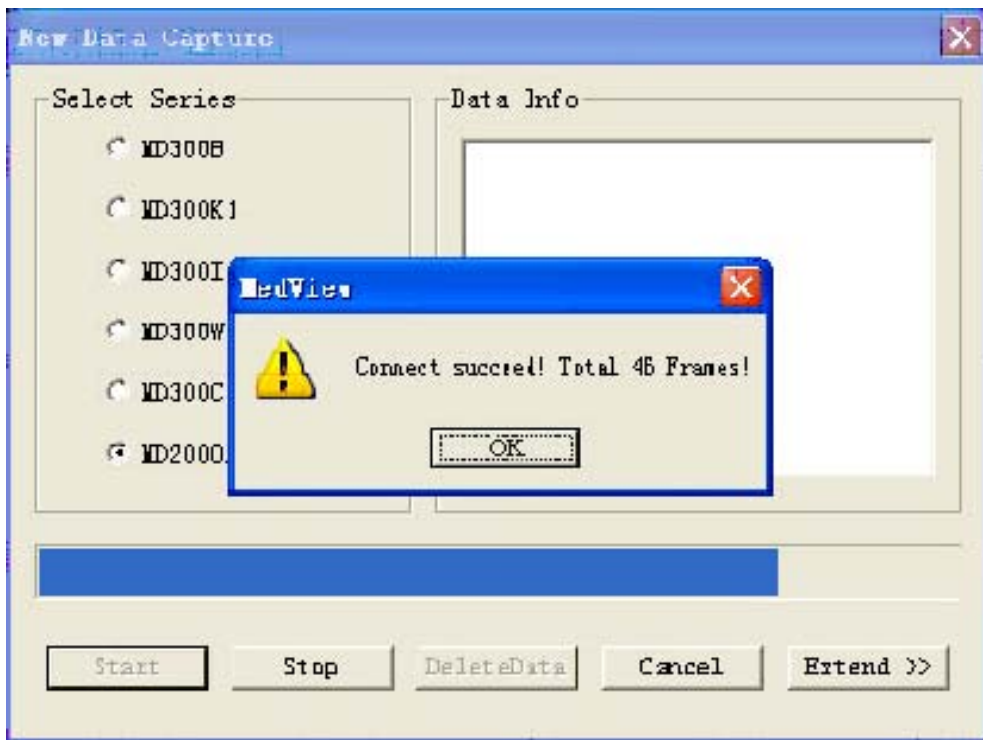
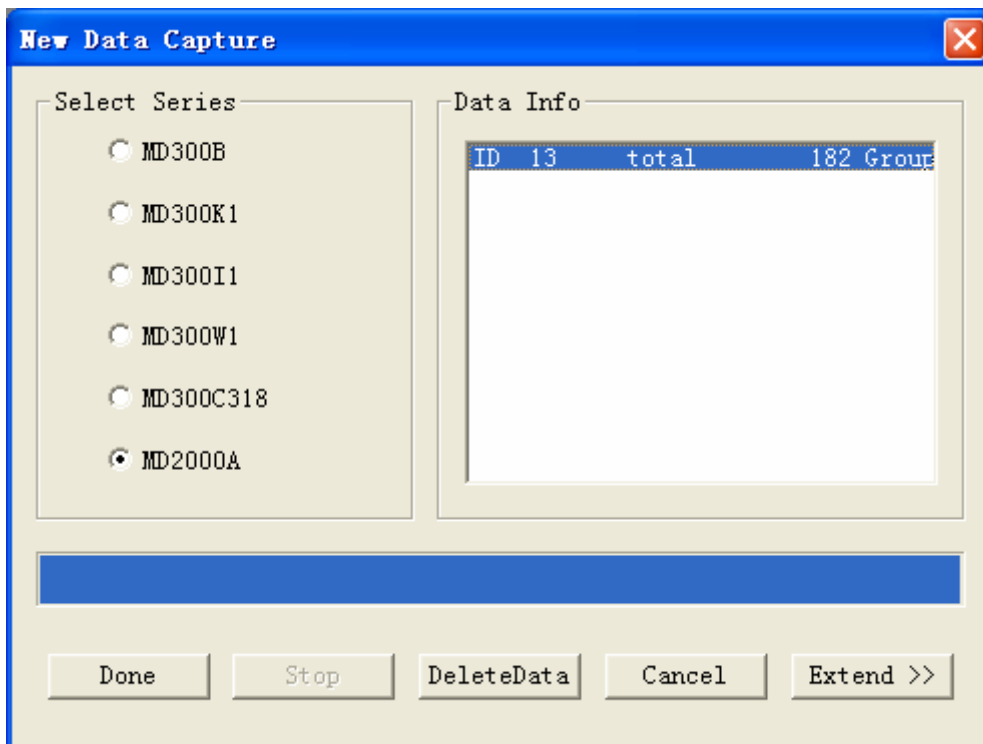
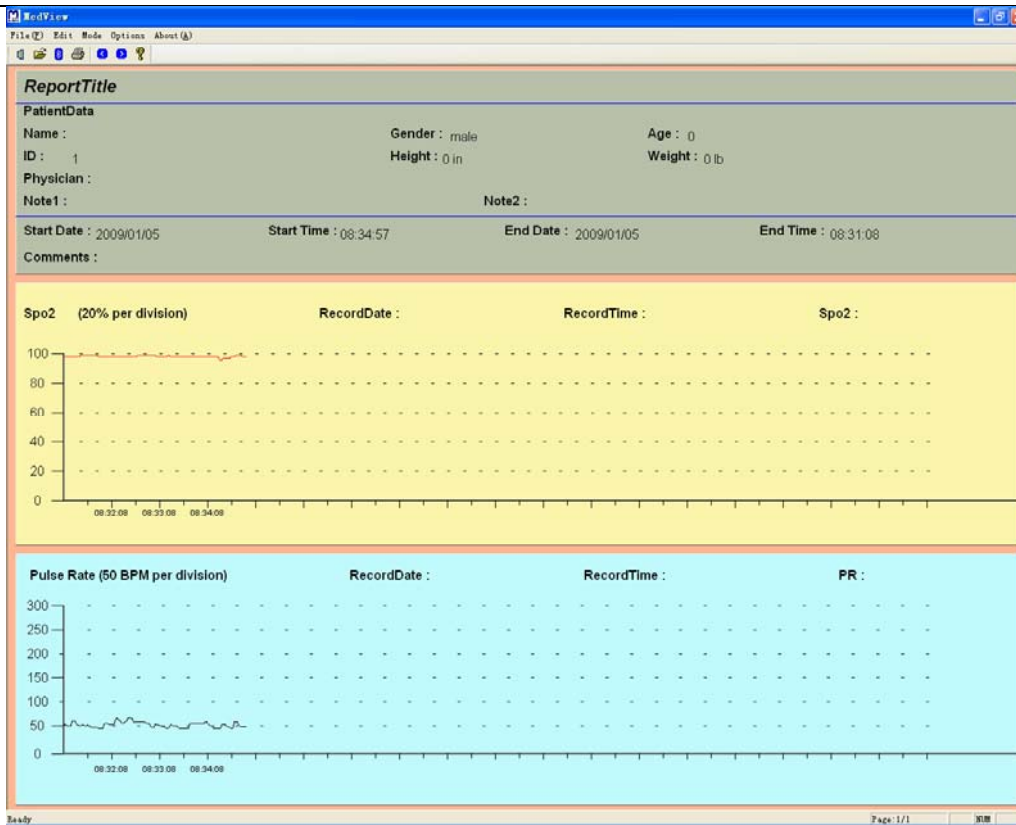
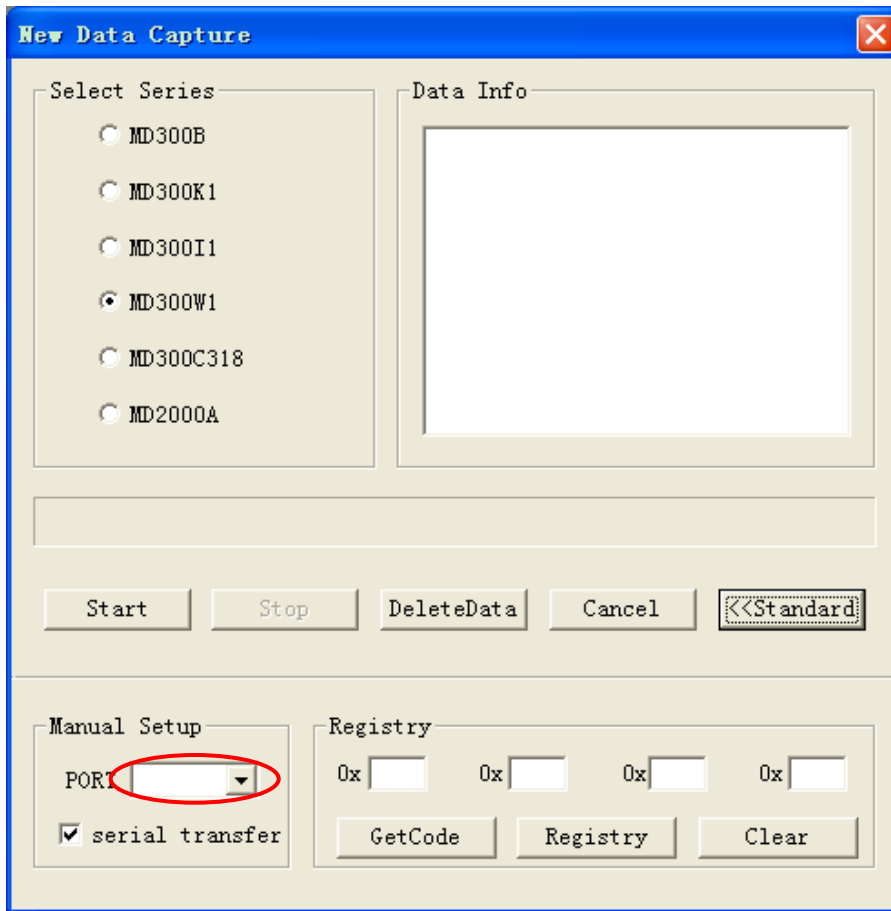

Figure 3-9
Figure 3-10
Figure 3-11
Figure 3-14
3.2.5 Click “OK” button in Figure 3-9, select one record in “Data Info” column then click “Done” to display the trend graph as shown in Figure 3-10 and Figure 3-11.
- (1).**Stop**: Click “Stop” button in Figure 3-9, the data transmission will stop.
- (2).**DeleteData**: Click “DeleteData” in Figure 3-10, the following figure will appear, as shown in Figure 3-12. If click “OK” button, all the data will be deleted, as shown in figure 3-13.
3.3.1 Click “Extend” button in Figure 3-9, select “serial transfer” in “Manual Setup” of the interface, as shown in Figure 3-14.